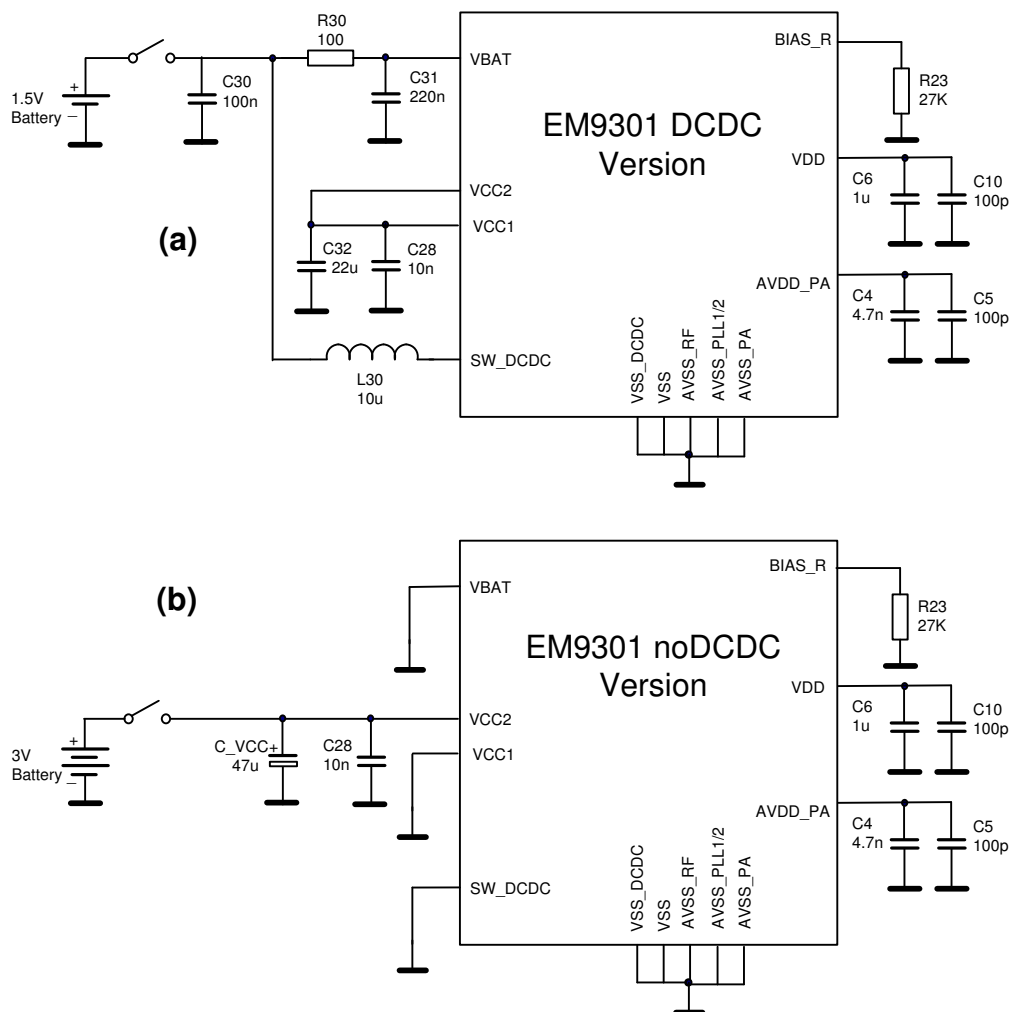

Figure 1.3 EM9301 power configurations: (a) DCDC version; (b) noDCDC version
This section describes how the power supply shall be connected for the different versions of the EM9301. Figure 1.3 shows a configuration schematic for the power lines, Table 1.2 gives a description of the EM9301 supply pins and Table 1.3 summarizes a list of recommended external components. For a proper operation of the chip, all pins with labels VSS or AVSS shall be connected to the common PCB ground.
VCC2	EM9301 main power supply. In the DCDC version this pin is directly connected to VCC1. In the noDCDC version this pin is connected to an external power supply (e.g. a 3V battery) as shown in Figure 1.3(b).
VBAT	This pin is only used in the DCDC version. It is the main supply voltage for the DC/DC converter and can be connected to a single cell battery (e.g. a 1.5V battery). In order to avoid possible noise injection, a low pass filter as depicted in Figure 1.3(a) (R30 and C31) shall be included.
VCC1	This pin is only used in the DCDC version. It is the output of the integrated DC/DC converter and shall be connected externally to VCC2 and to a decoupling capacitor as depicted in Figure 1.3(a) (C32).
SW_DCDC	This pin is only used in the DCDC version. It is the coil input to the integrated DC/DC converter and shall be connected with the lowest possible resistance to the external coil as depicted in Figure 1.3(a) (L30).
- For the EM9301 DCDC version the parameters are measured using the schematic on Figure 1.3(a) with the component list showed on Table 1.3, the battery voltage V_{BAT} is assumed to be 1.5V, the supply voltage $V_{CC2}=2.2V$, the external load in Standby Mode $I_{Lext}=10mA$, and the external load in Xtreme Mode $I_{Lext}=500\mu A$.
- For the EM9301 noDCDC version the parameters are measured using the schematic on Figure 1.3(b) with the component list showed on Table 1.3, the supply voltage V_{CC2} is assumed to be 2.5V.